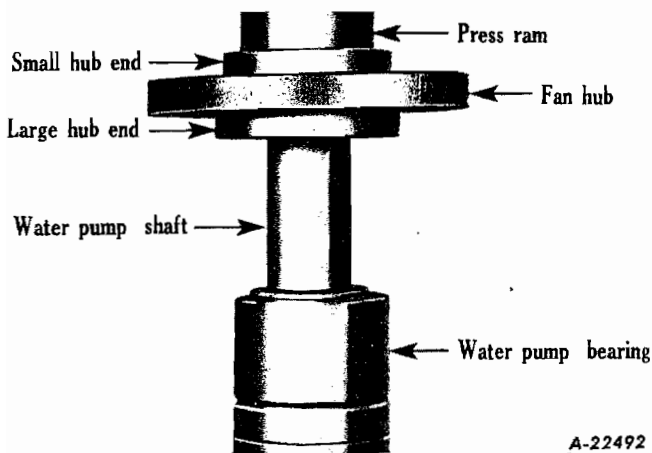

Fig. 37
- Press fan hub on shaft with the smaller diameter of the hub to the front (Fig. 37).